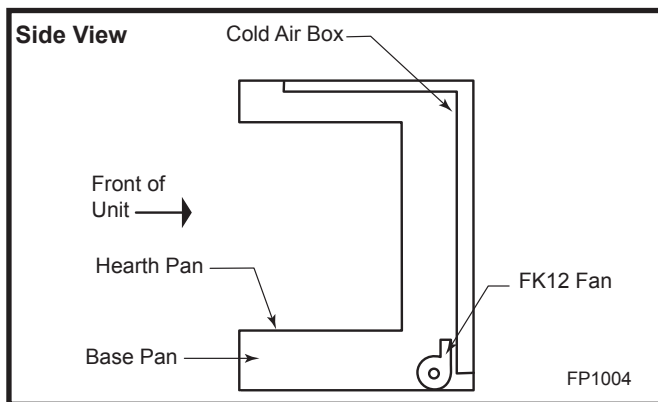

Fig. 57 FK12 Fan Kit placement.
6. Remove the 10 sheet metal screws and two (2) 1/4-20 bolts that secure the burner tray to the combustion casing.
9. **FK12:** Fig. 57